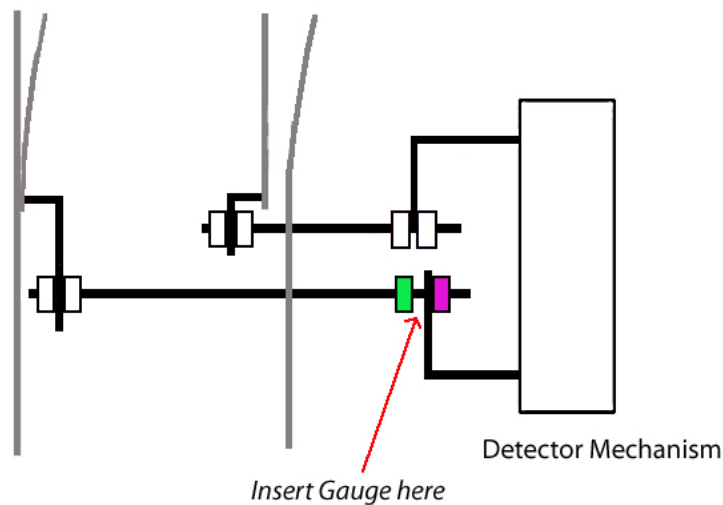

Figure 2 – Detector Mechanism (2)
- 1.11 Check the long detector rod is attached to the closed switch (Figure 2).